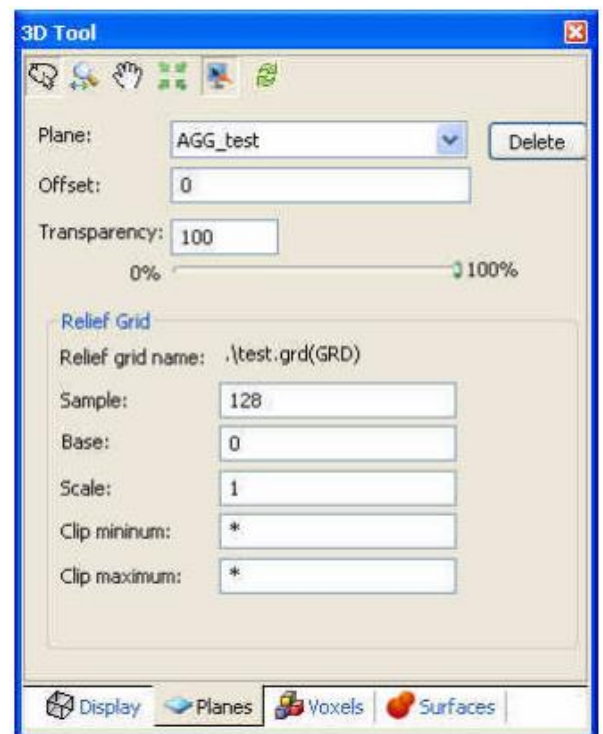

Figure 1.93. –3D Tool window
- Select the **3D Viewing Tools** (Rotate, Zoom, Pan, Centre, Redraw), fig. 1.93.